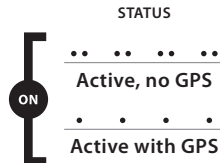

Figure 7 Status indicator in active mode
- Check the status indicator according to Figure 7 to confirm operation